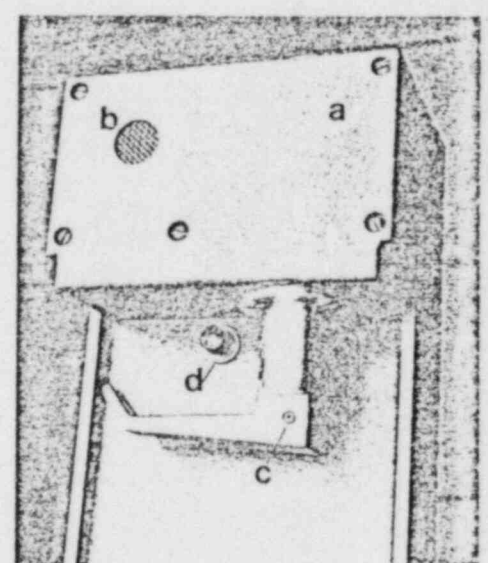

Figure 10c. Bottom view of valve head.
**4.5 Emergency Oxygen Assist** - This button directly in front of the Loop Selector Lever on the underside of the Delivery Arm (See Figure 10c) allows the operator to deliver  $\text{O}_2$  directly to the patient as required. It is a momentary pushbutton which opens a solenoid valve that allows  $\text{O}_2$  to empty directly into the head valve.